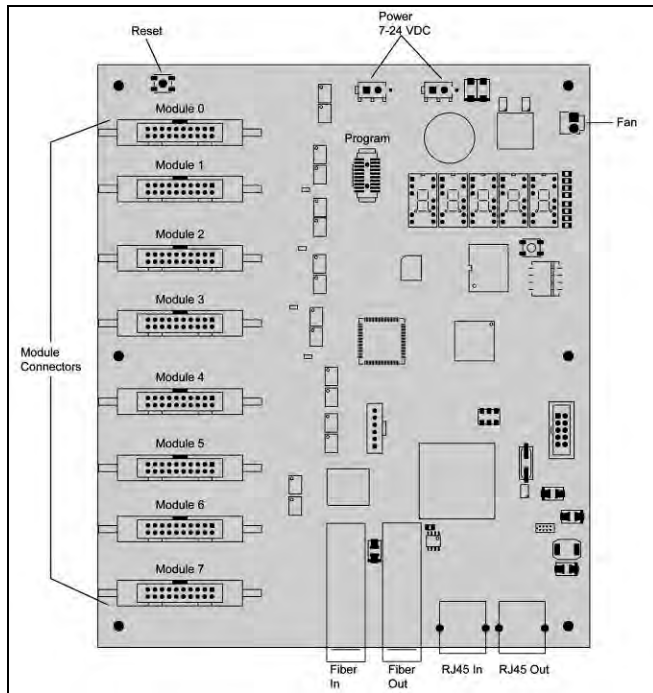

Figure 35: Multi-Line Controller
6. To install the new MLC, move the unit into place and replace the six nuts that hold it to the display back. Reconnect the fiber-optic and ribbon cables. Turn on the power, observing the boot-up sequence. Note that the LEDs to the right of the fiber-optic cables are on; DS23 to the left of the fiber cable should be off. Refer to **Figure 35**.